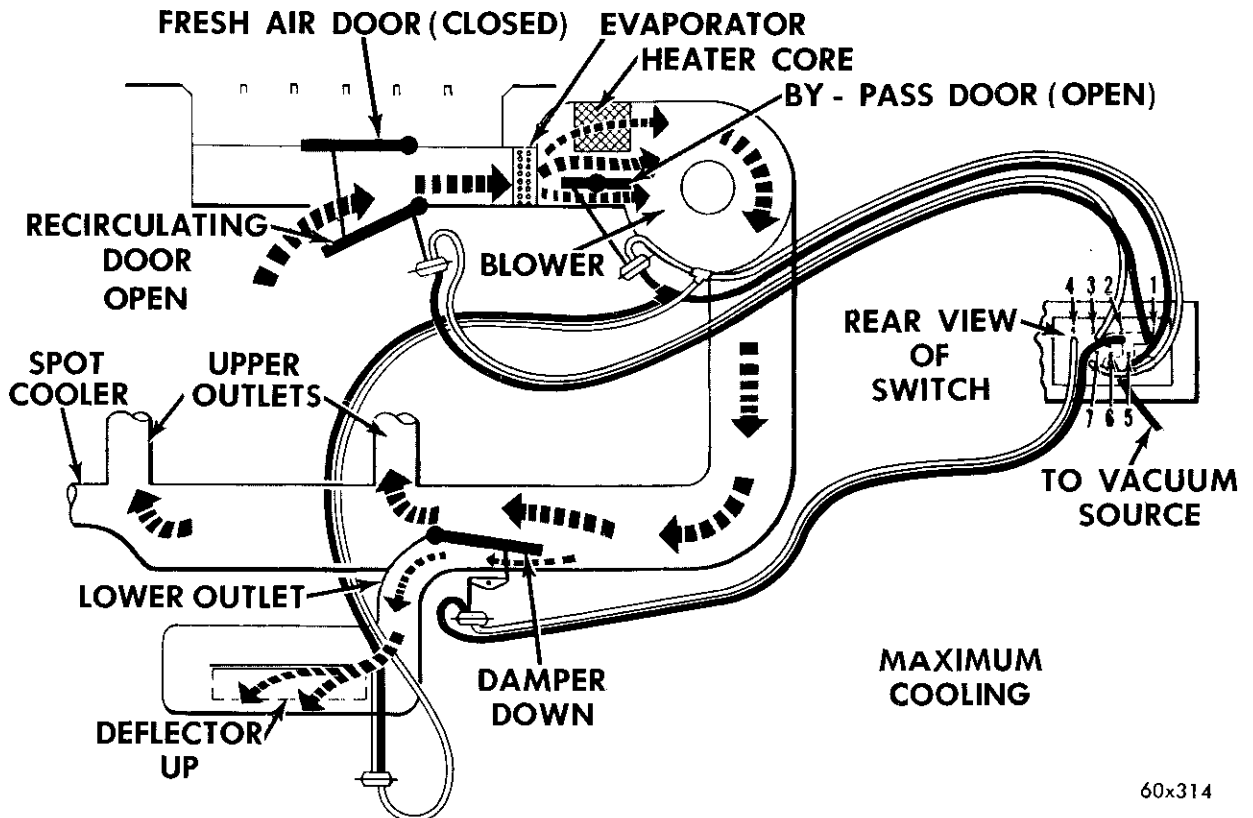

Fig. 6—Air Flow—Maximum Cooling—Chrysler and Imperial
**α. Air Flow—Maximum Cooling (Fig. 6)**